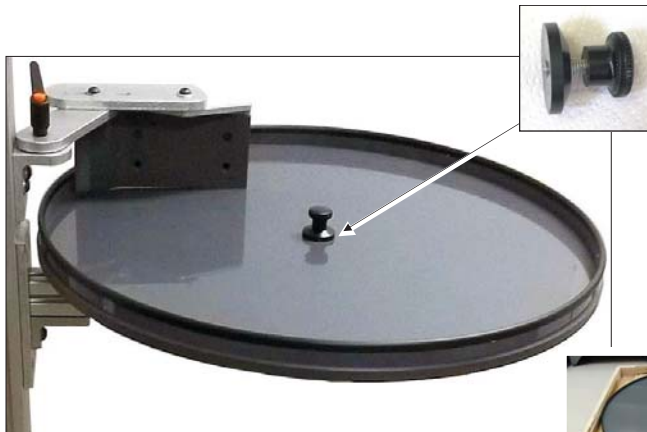

Fig. 10
3. Install the tabletop to the cross-frame assembly, using the following steps. Fig. 10 shows the completed result.
- a. Remove the clamping knob and washer from the drive hub, which is located in the center of the cross-frame (see arrow in Fig. 10).
4. Install the diverter arm assembly by sliding down the T-slot nearest the tabletop, as shown in Fig. 10. Use the 3/16" hex key. (Leave paddle adjustment loose until adjusted later in this guide.)